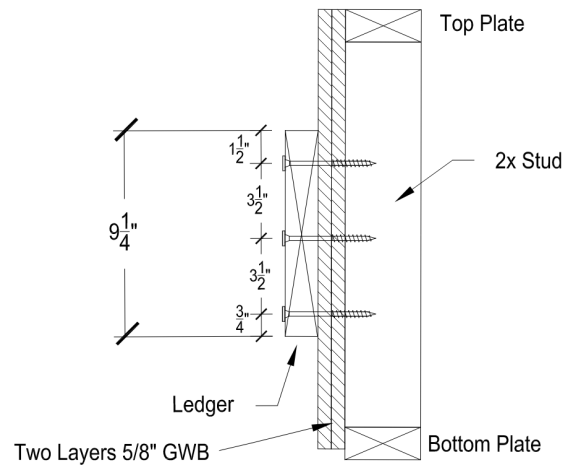

Figure 10. 2x10 Ledger Attached to Stud through Two Layers of GWB
- 1.10 For ledger to stud connections, fasteners shall be centered in the stud and spaced as shown in Figure 2 through Figure 10.